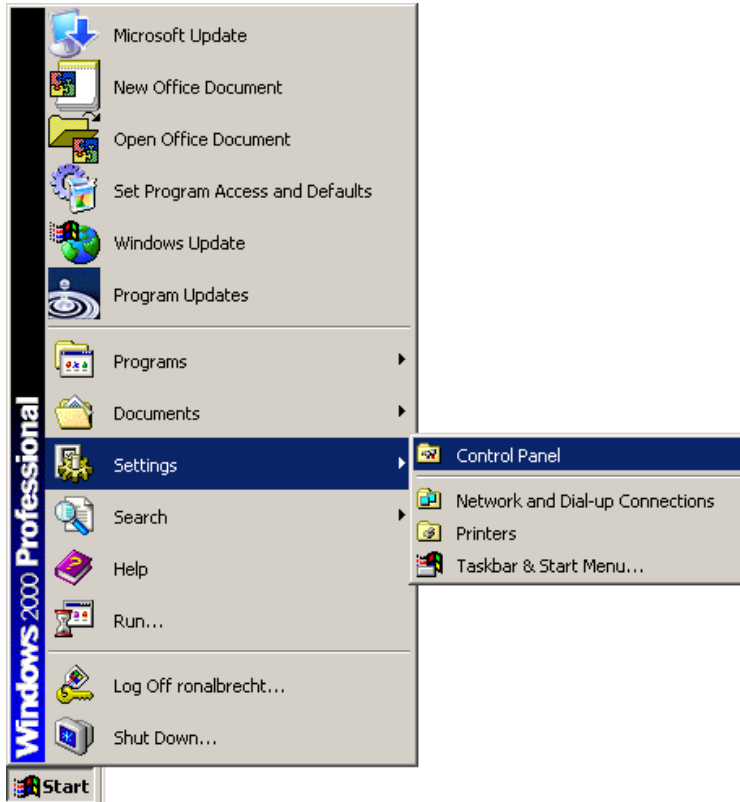

Figure 5-35: Windows Control Panel
Step 1: Open **Windows Control Panel (Figure 5-35)**.